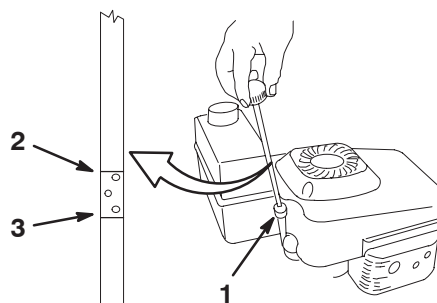

Figure 10
6. Read the oil level on the dipstick (Fig. 10).
Before each use, ensure that the oil level is between the Add and Full marks on the dipstick (Fig. 10).